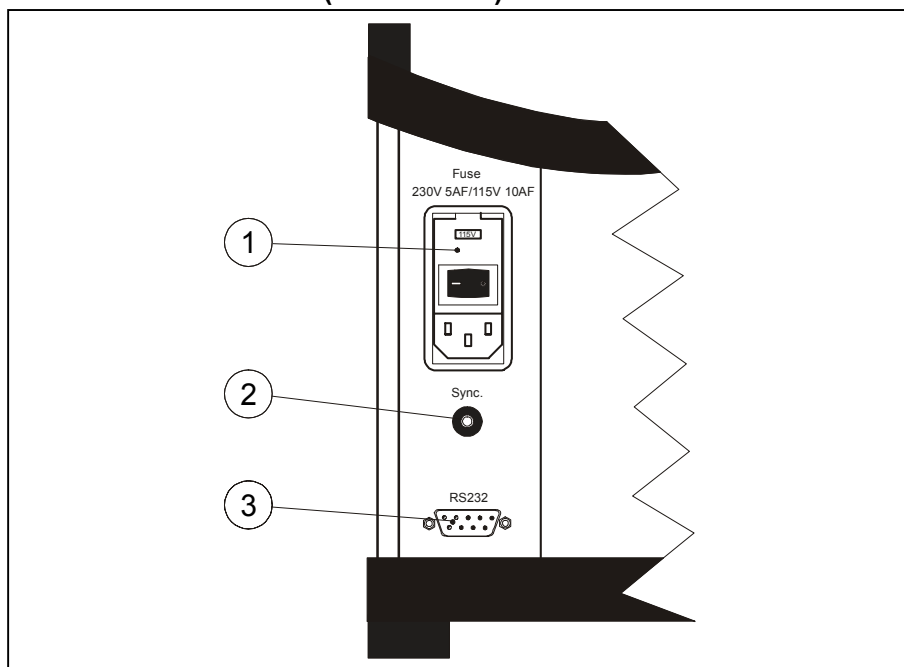

Fig. 5
Switch on the calibrator using the power control switch (pos. 1 in Fig. 5). The start up menu is displayed for approximately 2 seconds and is then replaced with the main menu screen: